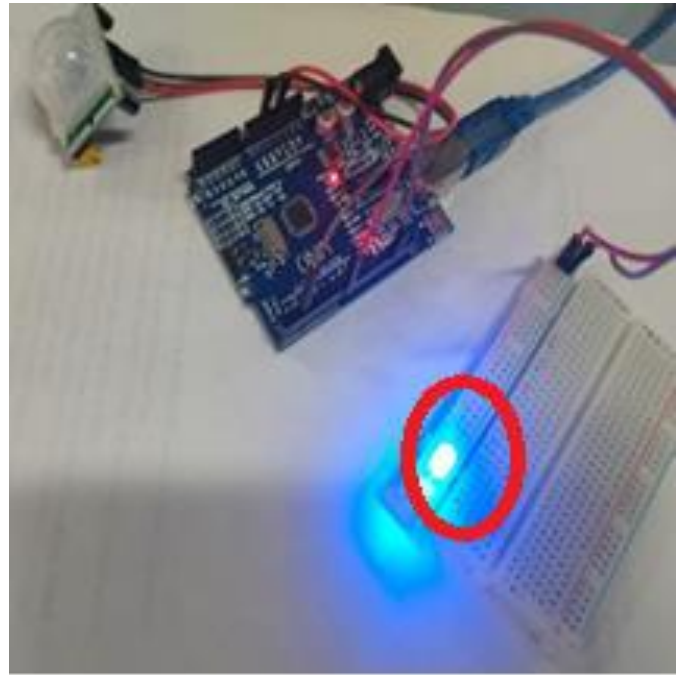

Fig.4: Motion Detected — LED ON
- When Motion Detected — LED ON (Shown in red circle in Fig.4)